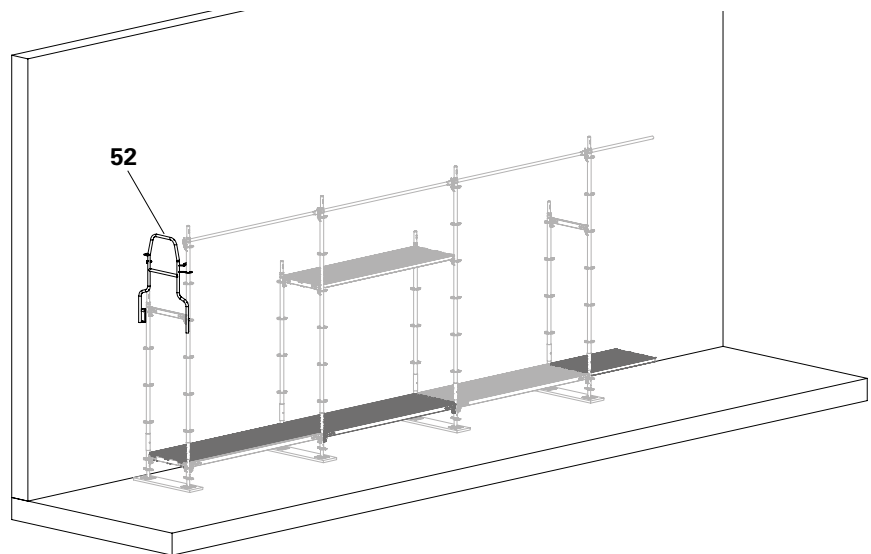

Fig. B3.04
9. Install End Guardrail in Advance UPA-2 (**52**) in the edge bay, see Section "End Guardrail in Advance UPA-2" on page 28. (Fig. B3.04)